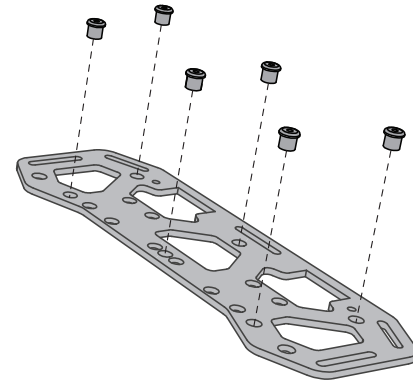

Figure 8. Install Rubber Grommets
2. Install six Rubber Grommets to each Cargo Rack as shown in **Figure 8**.